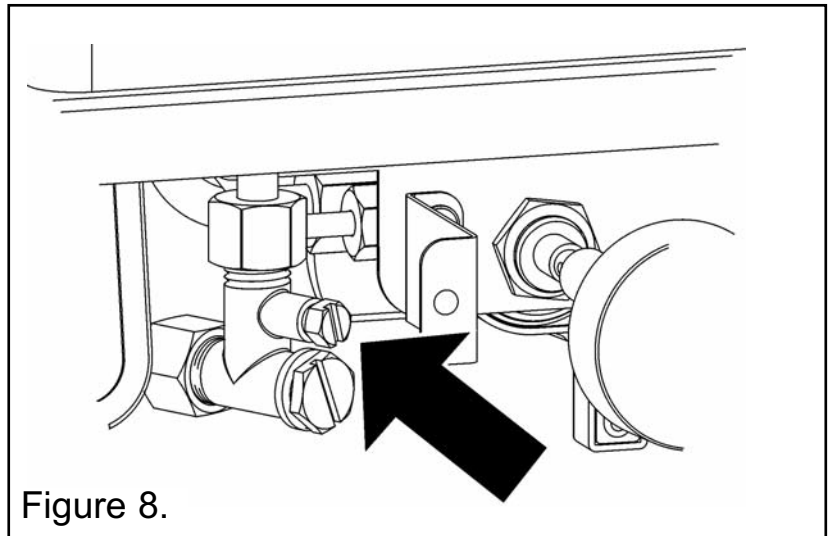

Figure 8.
- Check the inlet pressure by fitting a pressure gauge at the test point. The test point is on the inlet 'T' connector (See figure 8). Check the pressure with the appliance alight and set at maximum output.